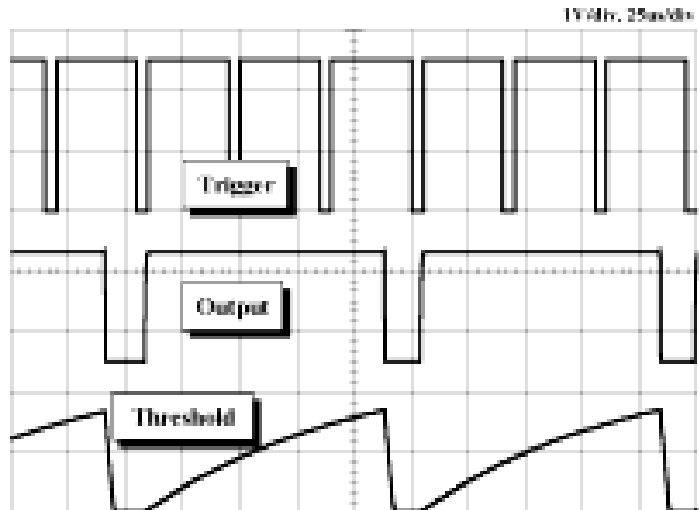

Fig.9.6 Divide by three operation using IC555 as a monoshot
4. The Fig.9.6 shows divide by 3 operation using IC 555 in monostable mode. Can you suggest how this is possible?